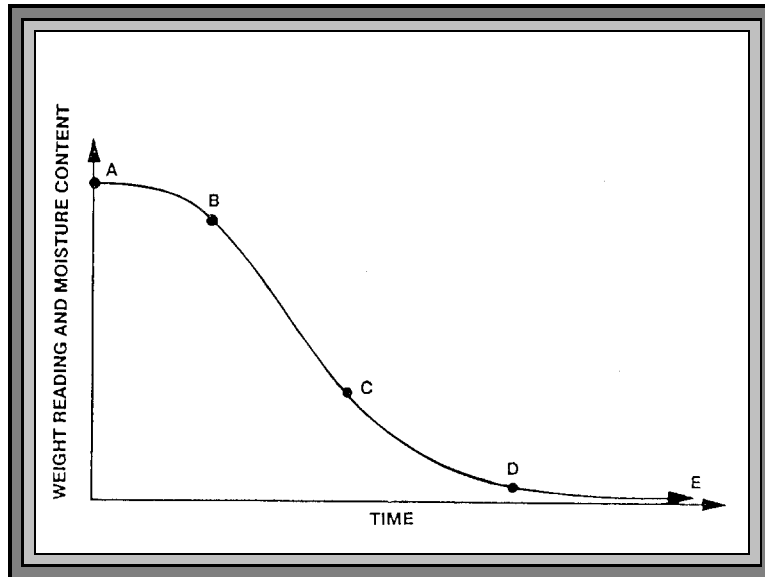

Figure 48 DRYING CURVE
- 13.1.2 A typical drying curve (see **Figure 48** below) consists of three portions: The first portion (A-B) represents the sample's weight loss as it heats from room to testing temperature.